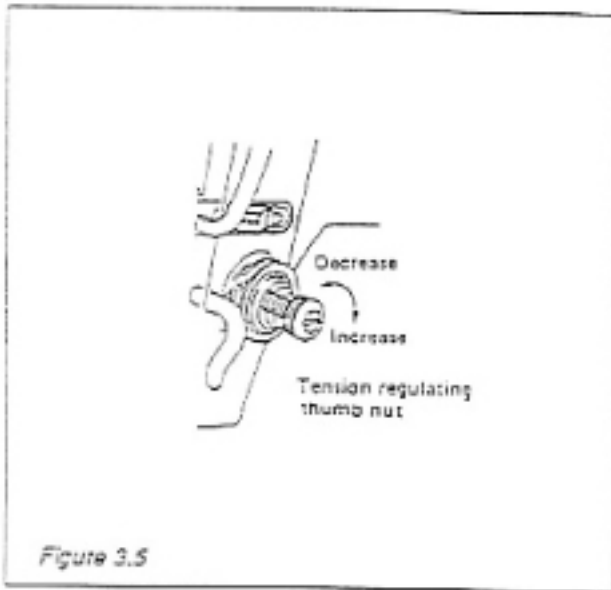

Figure 3.5
**3.5 Upper Thread Tension (Figure 3.5)**